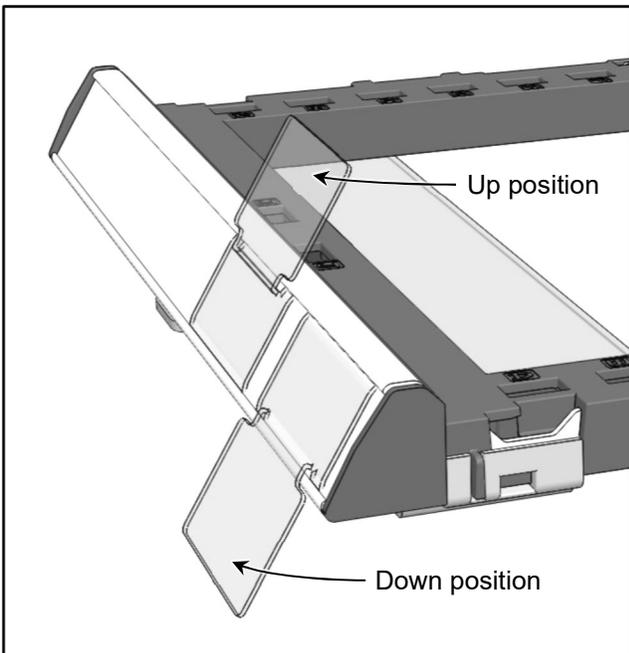

Figure 29
4. The Price Tag Holder can be installed in the "up" or "down" position (See Figure 29). Confirm position with the store manager.